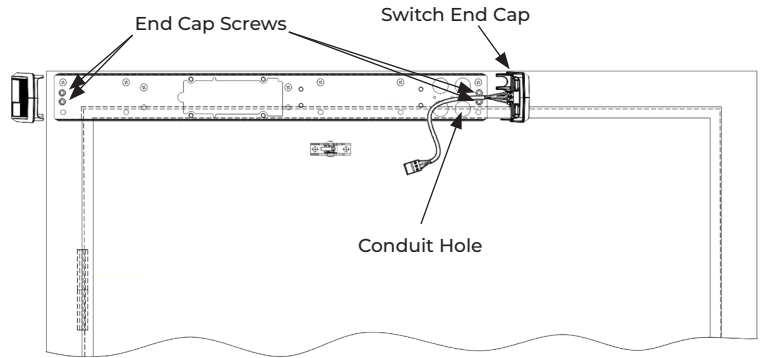

Figure 7
1. Install two (2) screws on each end of backplate, leaving an approximate 3/16" gap between the head of the screw and the backplate. (Figure 7)
2. Slide the end caps behind the screw heads and tighten both screws. (Figure 7)